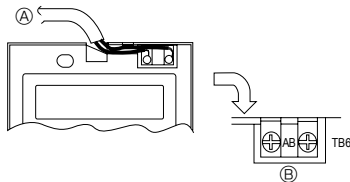

Fig. 4-3
2) Connecting procedures (Fig. 4-3)
- ① Connect the remote controller cable to the terminal block.